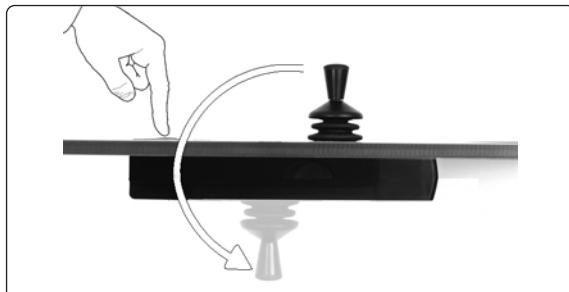

Figure 2. The panel can be reversed. Press the button at the front and turn the panel forwards 180 degrees.
5. The panel can be turned through 180 degrees to produce a flat tabletop. See *Figure 2*.